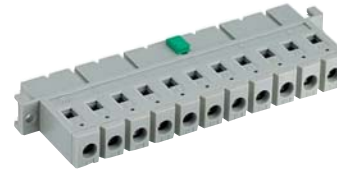

Fig. 20
- Various mating connectors H11, including screw, solder, fast-on, or press-fit terminals; see fig. 20 and the data sheet Casette Style Mating Connectors BCD20022 on our web site.